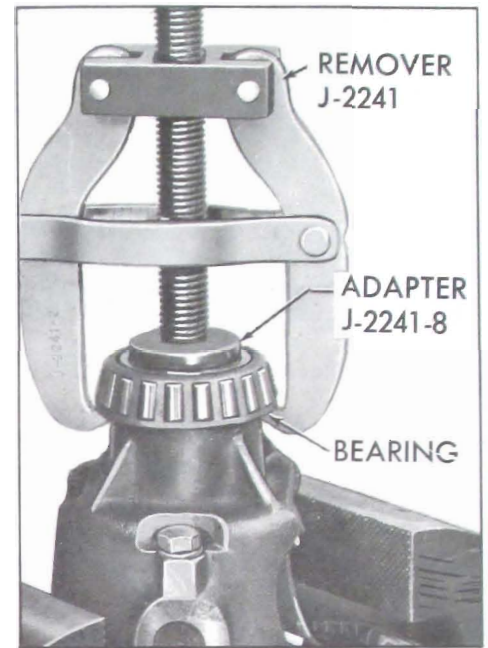

Fig. 6-12—Removing Differential Side Bearings
1. If differential side bearings are to be replaced, insert Remover Adapter J-2241-8 in center hole and pull bearing using Puller J-2241 or Hydraulic Puller J-9005. See Figure 6-12.